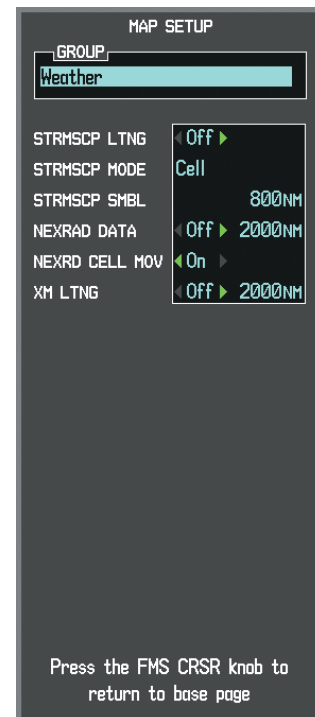

Figure 6-65 Map Setup Menu
- 3) Turn the small **FMS** Knob to display the group selection window. Turn the small **FMS** Knob to select 'Weather' (Figure 6-65), and press the **ENT** Key.
The following options are available (Figure 6-65):
- 3) Select the 'Weather' group (Figure 6-65).